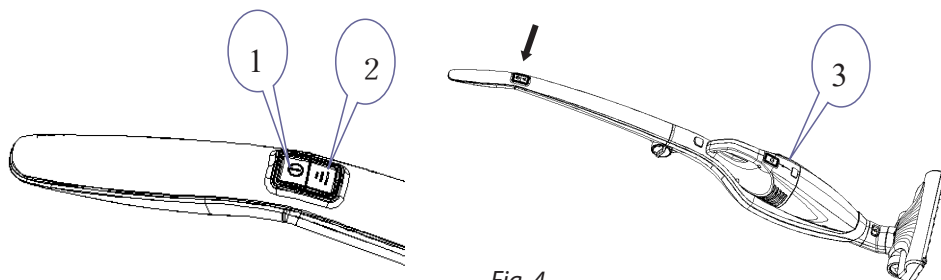

Fig. 4
There are two switches including power switch (1) and power regulation button (2) (see Fig. 4). Press down power switch (1), the motor starts to run, the floor brush indicator turns on and the appliance enters into working condition; Press down the power regulation button (2), the cleaner will change to the Turbo Mode in which it achieves a much better cleaning performance on a hard-to-clean surface. Once the power regulation button is press again, the cleaner will change back to the Normal Mode in which the cleaner will have a longer running time. Press the power switch (1) if you want to make the appliance stop working. During operation, please pay attention to charge quantity indicators (3), the indicators will extinguish gradually as the charge quantity reduces and the appliance will stop working automatically when all the indicators extinguish.